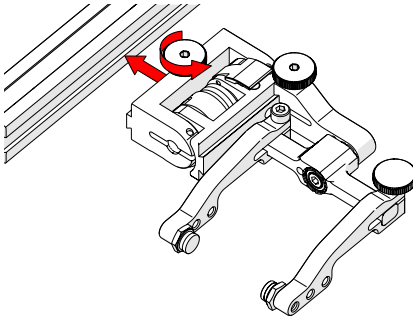

Fig. 54 - Attach to frame bar
1. Rotate the probe holder adjustment knob and attach the probe holder to a frame bar (Fig. 54).